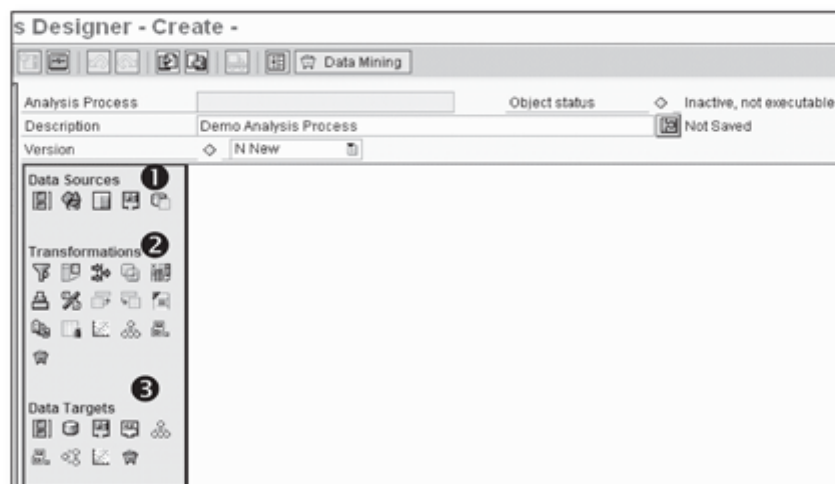

Figure 15.6 Components of Analysis Process
This displays the Analysis Process Designer – Create screen (Figure 15.6). The left panel of the screen displays all of the components that can be used to build an analysis process, and the right panel displays the design area where the analysis process is built.
- **Data source:** The components from which data is read for further processing in an analysis process are categorized as data sources (1 of Figure 15.6). An analysis process can use master data, BEx queries, InfoProviders, flat files, or database tables as a data source.
- ▶ **Transformations:** Different analysis functions used on the data are grouped under Transformations (❷). These different transformations range from a simple filter function to more complex data mining functions.
- ▶ **Data targets:** The data processed and generated in an analysis process can be saved into different data targets (❸), such as direct update DSOs, master data attributes, flat files, and so on. The data generated in an analysis process can also be fed to data mining models.